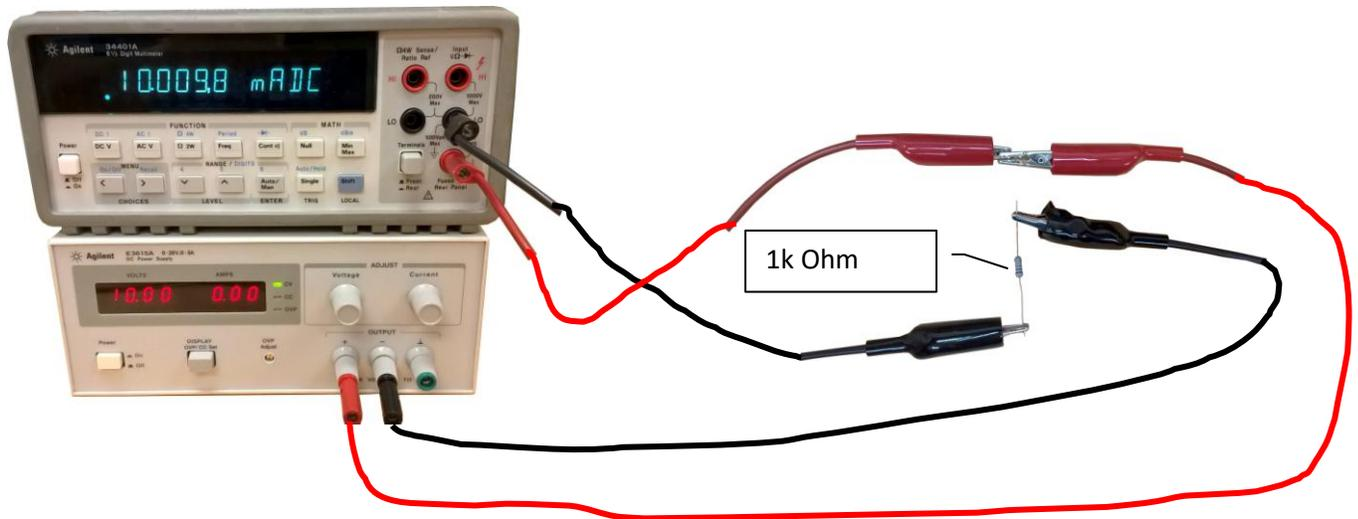

Figure 10: Setup to measure D.C. Current.
3. Connect red and black banana to alligator clips to both the DMM and the power supply. (See figure 10) Connect the red alligator clips together and connect the black alligator clips to each side of the resistor. (See figure 10)